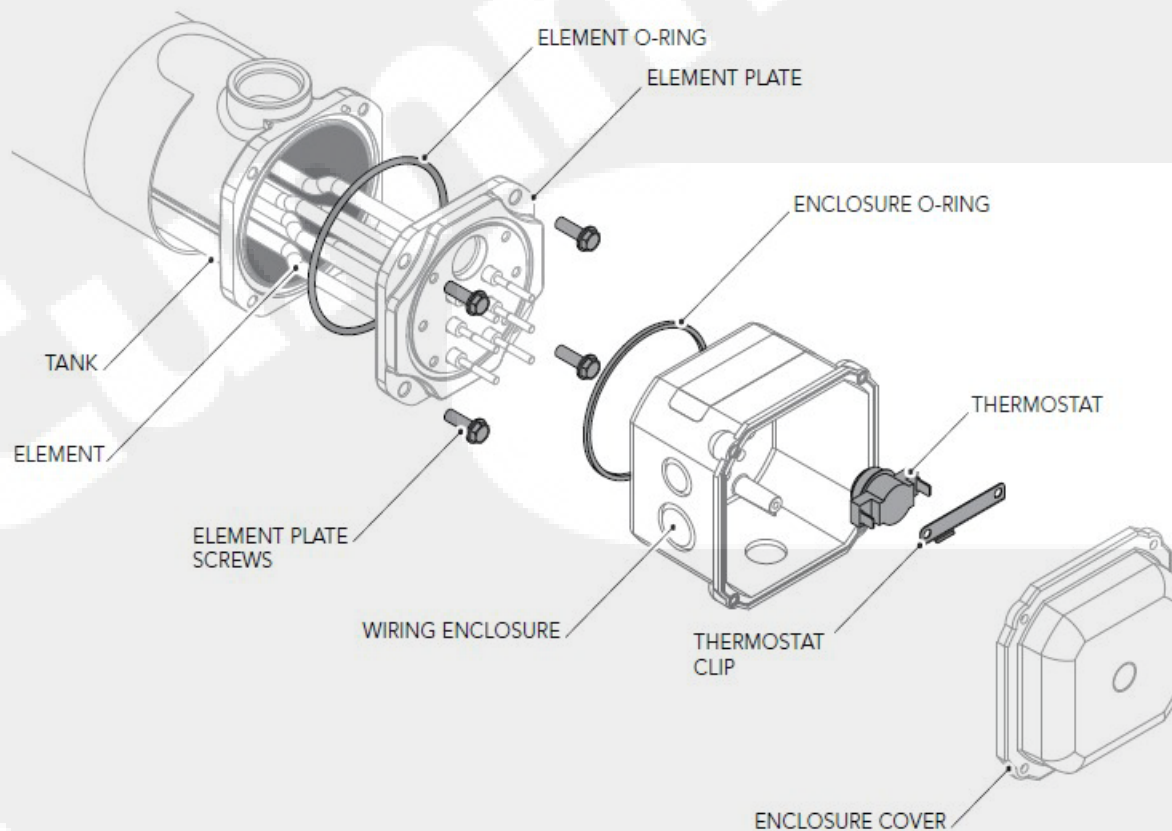

Figure 7-45 GenSet lube oil heater components
9. As shown in Figure 7-45, clean the lube oil heater heating element:
The lube oil heater components are shown in Figure 7-45.